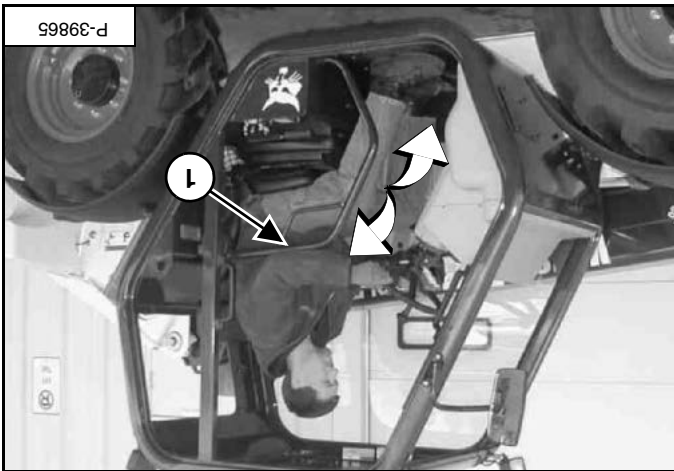

Figure 79
Fasten seat belt and lower the restraint bar (item 1) [Figure 79] (if equipped), and engage the parking brake. Put the Travel Direction Control lever and joystick in NEUTRAL.